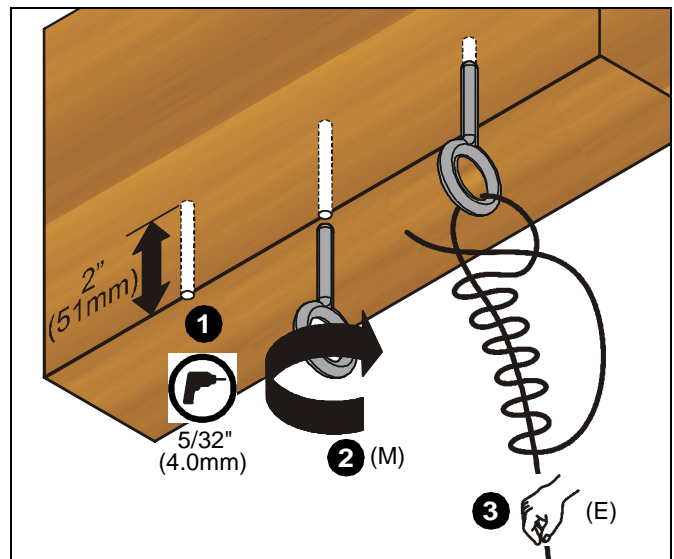

Figure 10
1. Drill 5/32" (4.0mm) diameter x 2" (51mm) deep hole at each marked wire anchor support location (See Figure 10). Remove debris from hole.
2. Fully thread eye lag (E) into each hole (See Figure 10).
3. Insert support wire (E) through eye in lag. Twist wire tightly around itself at least 4 complete turns, and then thread loose end between eye and first turn (See Figure 10). Repeat for 3 remaining support locations.